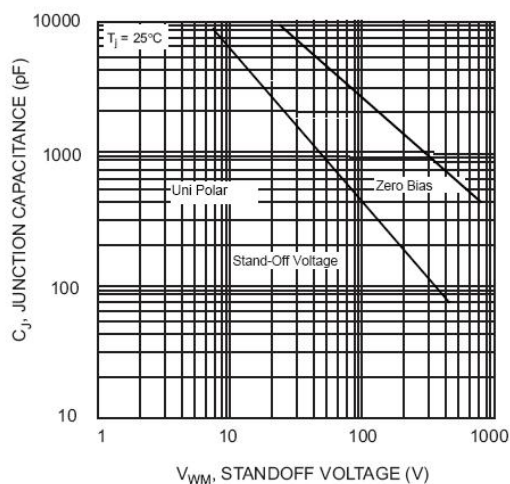
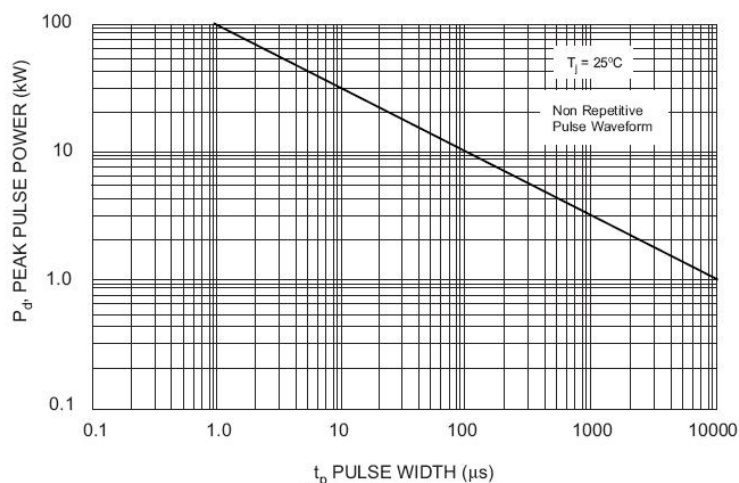

Fig. 2 Typical Junction Capacitance
Fig. 3 Pulse Rating Curve
1. Non-repetitive current pulse , per Fig. 3 and derated above $T_A = 25^\circ\text{C}$ per Fig. 2.